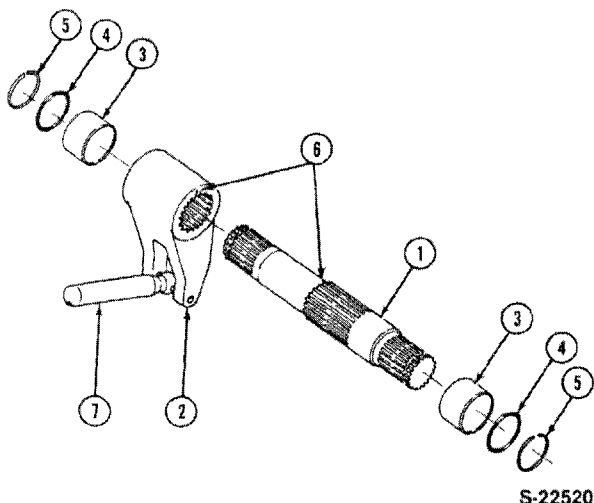

Figure 32
Reference — Figure 32
NOTE: Be sure to align the reference marks (6) as shown, Figure 32.